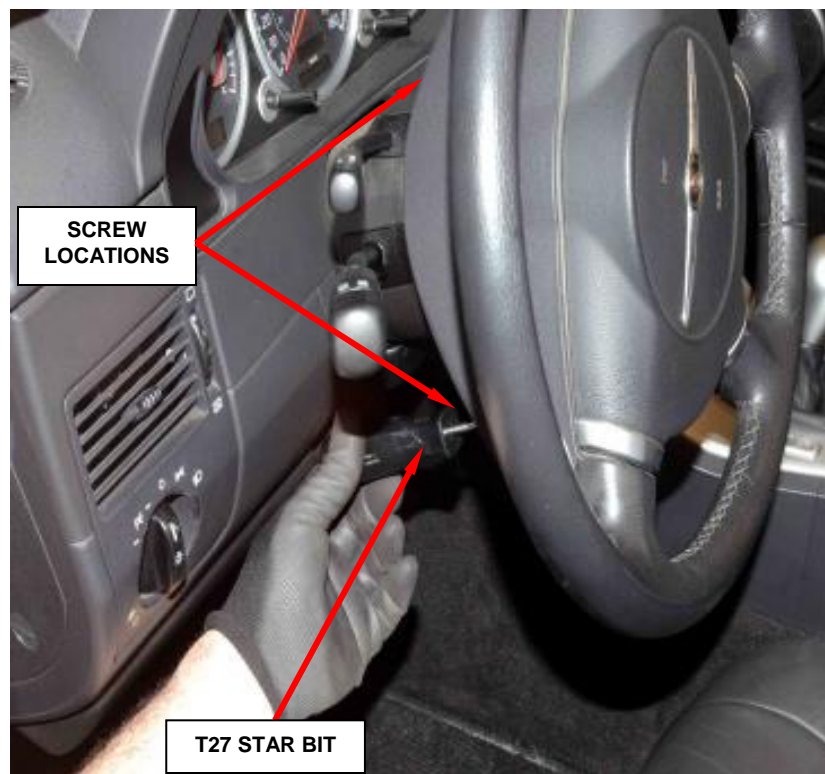

Figure 1 – Driver Airbag Screw Locations
2. From the underside of the steering wheel, use a T27 star bit to remove and save the two screws that secure the driver airbag to the steering wheel (Figure 1).
24. From the underside of the steering wheel, install and tighten the two screws that secure the driver airbag to the steering wheel. Tighten to 71 in. lbs. (8 N·m) (Figure 1).